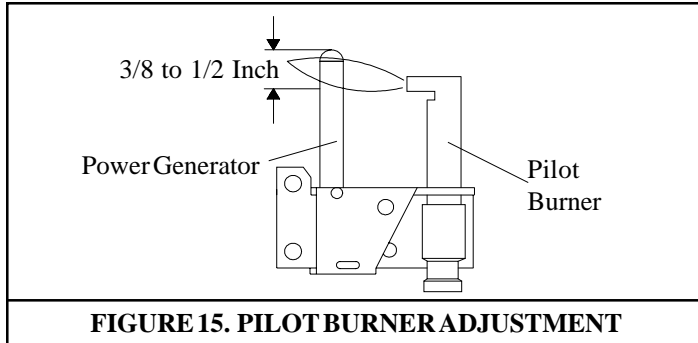

FIGURE 15. PILOT BURNER ADJUSTMENT
2. Adjust pilot screw to provide properly sized flame. **See Figure 15 or for properly sized flame.**